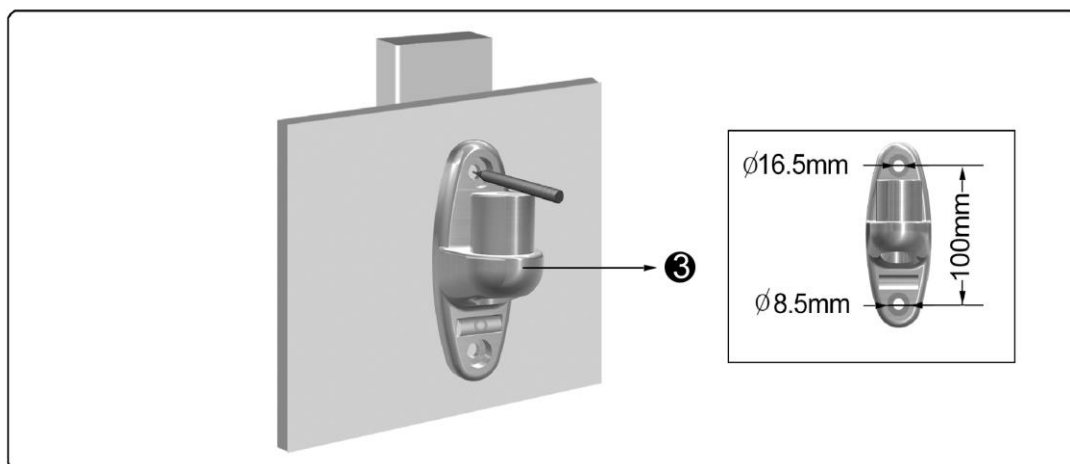

Figure 1-1
1. Use an electronic stud finder to locate the wooden beam. Place the Wall Plate (3) on the wall and mark the pilot holes with a pencil (See Figure 1-1).